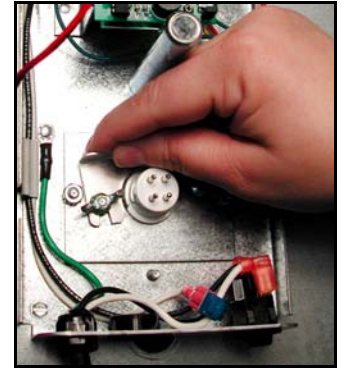

Figure 17
9. Swing the swivel bracket over the end of lamp. Hand-tighten the wing nut on the stud. Be careful not to over tighten the wing nut. The porcelain at the lamp base may crack when over tightened. (See Figure 17)